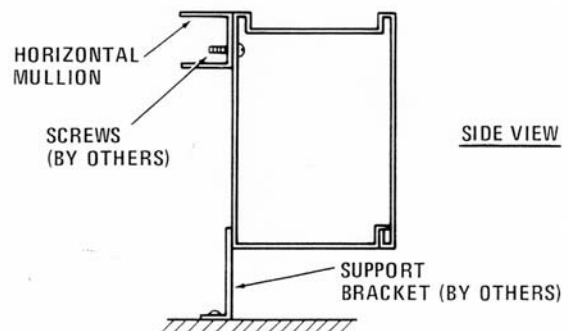

Figure 10.
2. On horizontal mullion installation, install support brackets as shown in Figure 10.